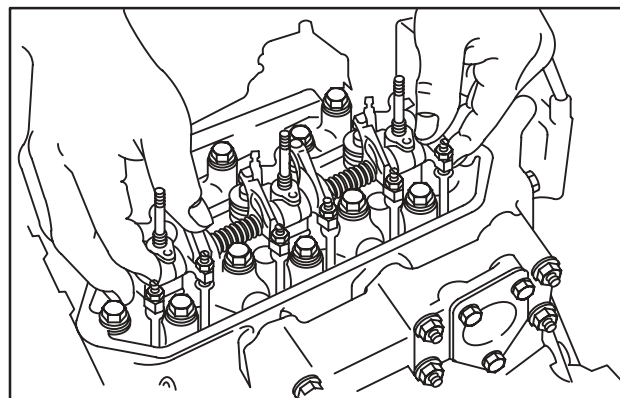

Fig. 35 – Install Rocker Arm Assembly
4. Install valve stem caps on valve stems. Install rocker arm assembly, Fig. 35. Install washers and torque nuts to 19.0 Nm (170 in. lbs.).